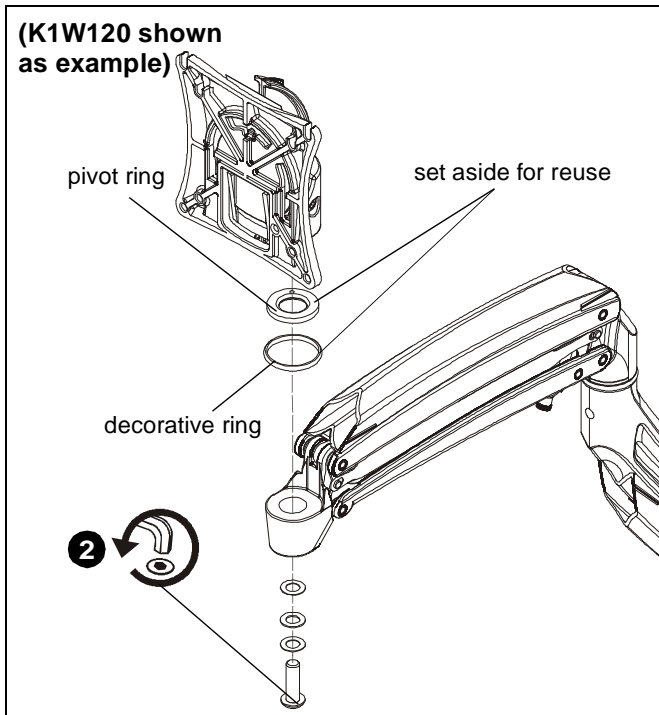

Figure 1
2. Remove button head cap screw, spacers and washers to disassemble head from K1 mounting arm. (See Figure 1)